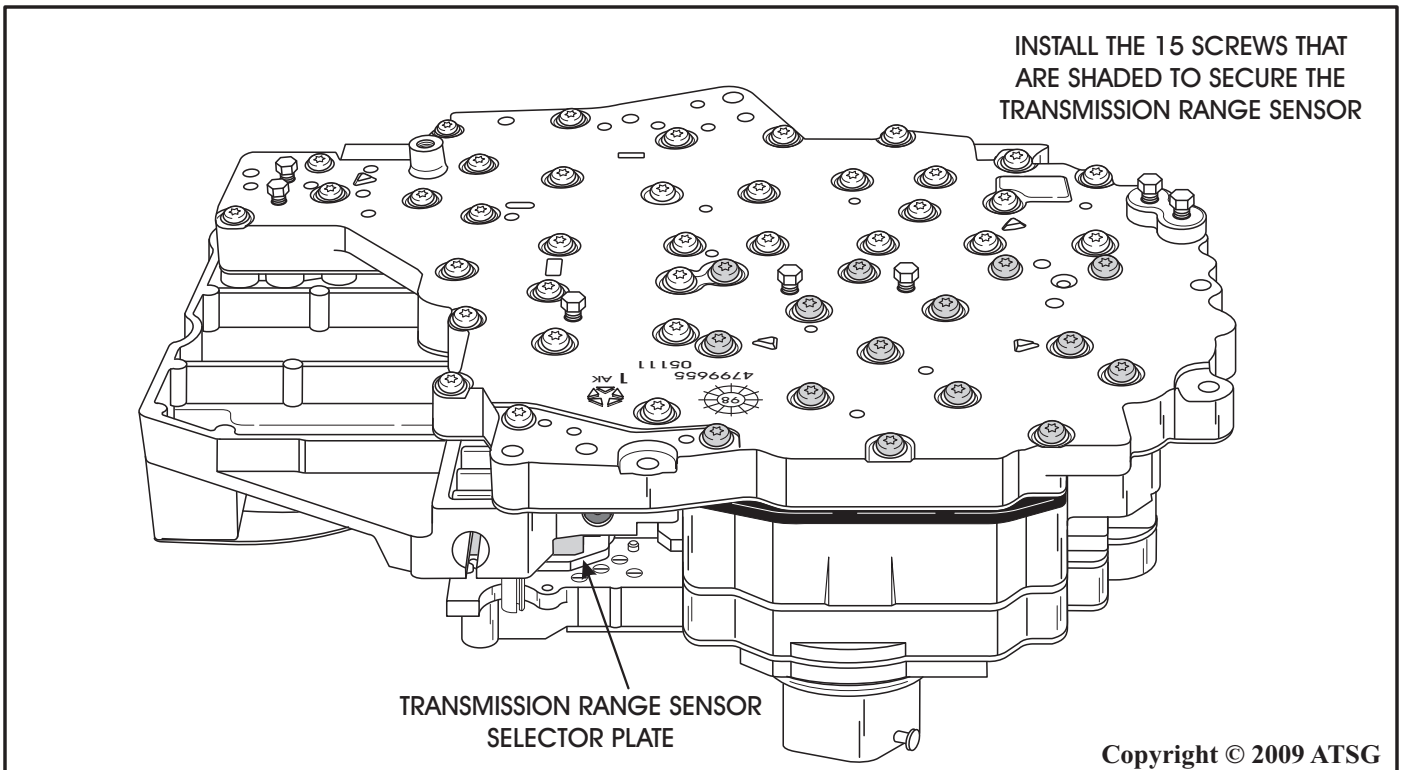

Figure 105
21. Install the TRS/Solenoid Pack onto the transfer plate using the remaining 15 valve body screws as shown in Figure 105.
- Important: Tighten the screws nearest the TRS selector plate first, and work toward the other end. Refer to Figure 105.**
2. However, if someone has not listened, we have provided you with an exploded view of the TRS/Solenoid Pack in Figures 105 and 106.
The illustrations in Figures 105 and 106 have been provided as information only. We recommend that the TRS/Solenoid Pack NOT be disassembled as none of the internal parts are serviced separately.